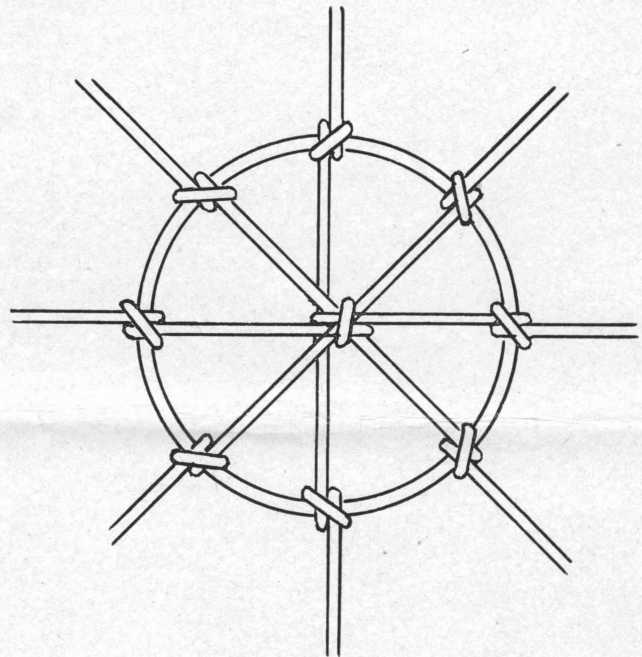

Fig. 8
A good quality of spring twine should be used for tying the springs. Each spring is crossed by four cords. (Fig. 8).
5) The twine is pulled tightly away from the worker, the thumb and index finger holding the cord tightly until the knot is complete. When made correctly, this knot forms a figure 8. (Fig. 11c). The knot cannot slip and will not pull out if the twine wears through at any point. The twine is then stretched across the top of the spring and a similar knot made on the opposite side of the coil.